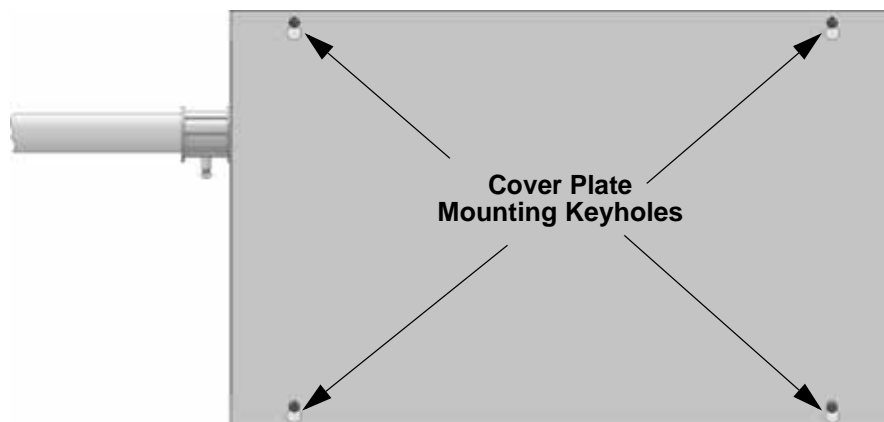

Figure 4-7 Cover Plate Mounting Keyholes and Cover Mounting Screws Alignment
6. Align the cover plate mounting keyhole over the cover mounting screws. See Figure 4-7.
7. Slide the cover into place and tighten the cover mounting screws. See Figure 4-7.